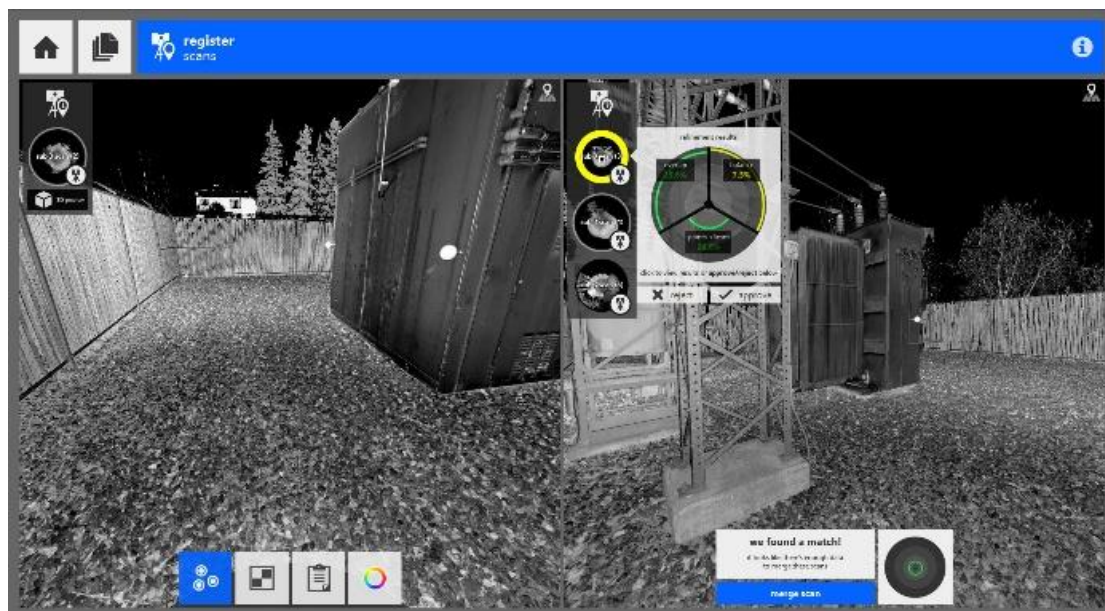

Figure 10: Accept and Verify Registration Results
- After assigning all points verify the quality of the registration by viewing the quality report and accepting or rejecting the registration (Figure 10)